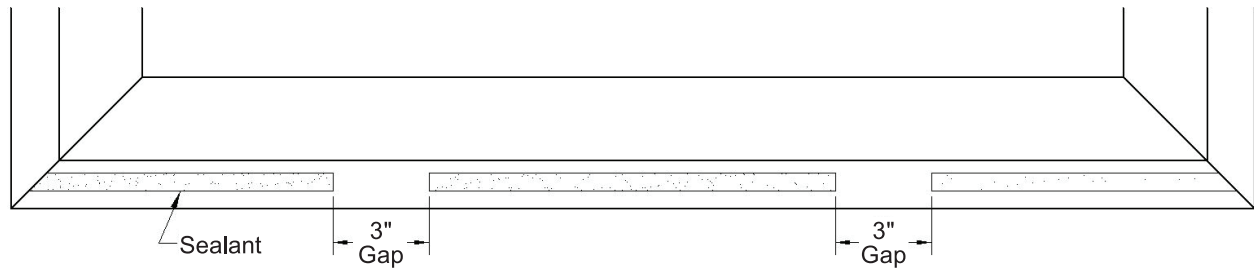

FIGURE 3
5. Apply a discontinuous bead of sealant on the nail fin (interior side) at the sill with (2) 3" wide gaps (Shown in Figure 3) to allow any water that enters the opening to escape.